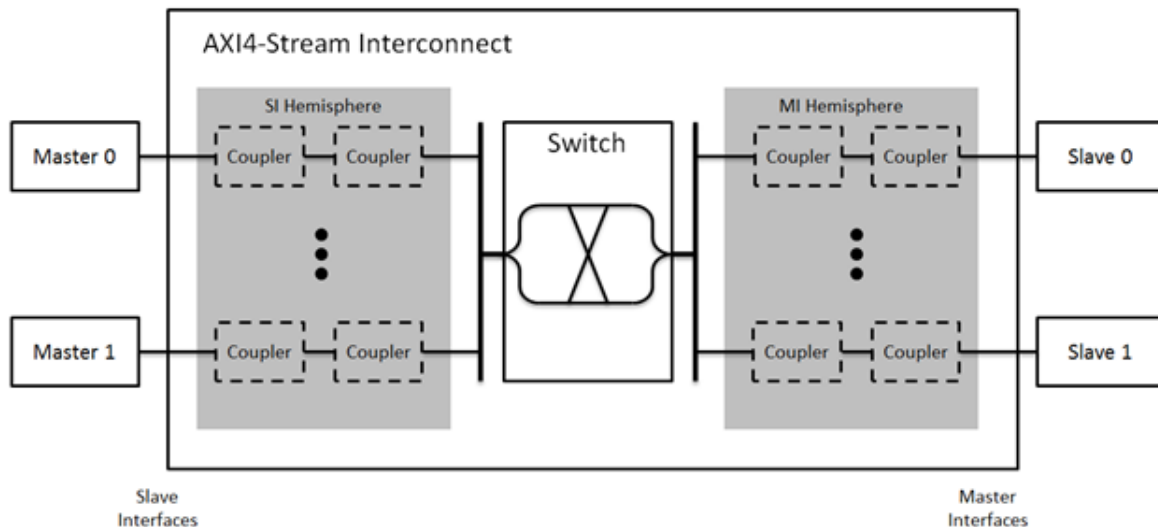

Figure 4-12: AXI4-Stream Interconnect
Figure 4-12 shows the top-most AXI4-Stream Interconnect core block diagram. Inside the AXI4-Stream Interconnect, an AXI4-Stream Switch core routes traffic between the Slave Interfaces (SI) and Master Interfaces (MI). Along each pathway connecting a SI or MI to the Switch, an optional series of AXI4-Stream Infrastructure cores (couplers) can perform various conversion and buffering functions. The couplers include: AXI4-Stream Register Slice, AXI4-Stream Data FIFO, AXI4-Stream Clock Converter, AXI4-Stream Data Width Converter and AXI4-Stream Protocol Converter.